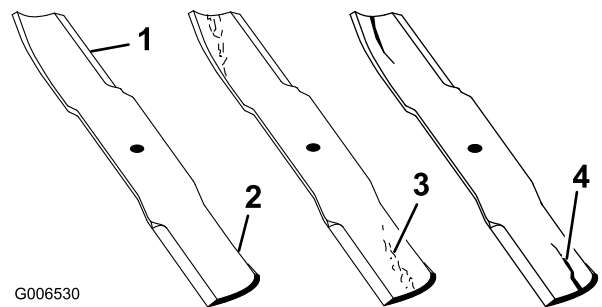

Figure 25
4. Examine the cutting ends of the blade carefully, especially where the flat and curved parts of the blade meet (Figure 25).
Note: Since sand and abrasive material can wear away the metal that connects the flat and curved parts of the blade, check the blade before using the machine. If you notice wear (Figure 25), replace the blade; refer to Removing the Cutting Blade.
If the blade is allowed to wear, a slot will form between the sail and flat part of the blade (Figure 25). Eventually, a piece of the blade may break off and be thrown from under the housing, possibly resulting in serious injury to yourself or bystanders.